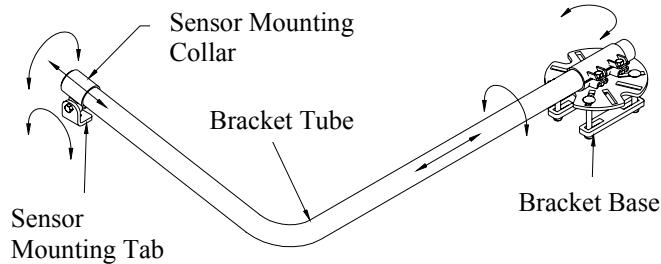

Figure 11 – Main Lift Sensor Bracket
1. Assemble the main lift sensor bracket (**B11**) as shown in **Figure 11**.